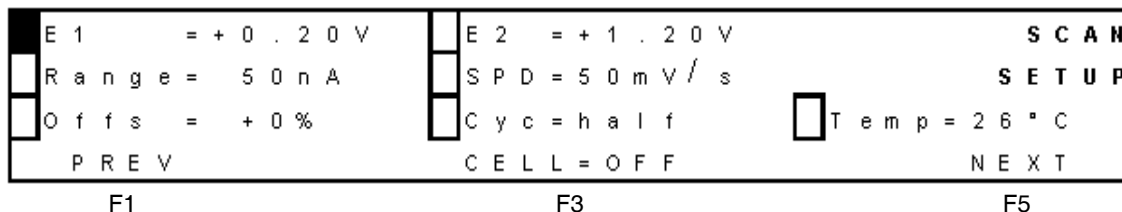

Figure 3-64 Scan Setup Screen
1. From the Main screen, select **F4 SCAN**. The Scan Setup screen appears (Figure 3-64).